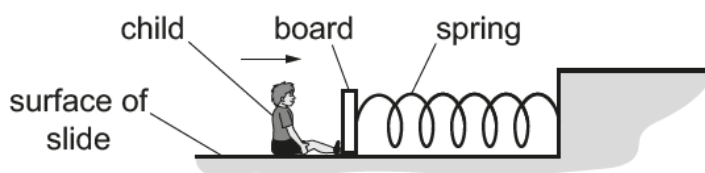

Fig. 4.2 (not to scale)
- (d) At end Y of the slide, the child is brought to rest by a board, as shown in Fig. 4.2.